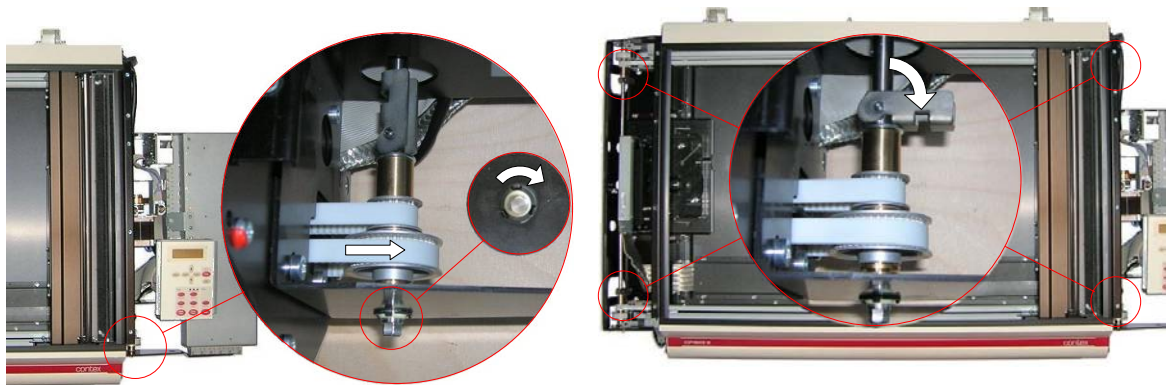

Fig. 4-7, Drive Wheels
- Move the carriages fully to the RHS (operator panel side) by turning either the front LHS drive wheel or by using a tool on the hexagon drive-shaft end (1/4" socket or a standard bit holder), see Fig. 4-7. On early models the hexagon is missing and it is not possible to use a tool!
- Pull all 4 drive wheel lock handles to unlocked position, see Fig. 4-7